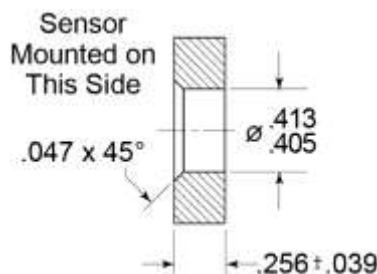

Figure 4
9. Location, orientation, and the method of securing the CIP-P and CIP-S sensors is determined by the airframe manufacturer. However, Lycoming does make these recommendations for dimensions of the mounting hole (Figure 4). The sensors must be connected to the airframe induction system installed between the air cleaner and the turbo compressor in a location that reads static pressure and should never be installed with the sensor air inlet facing up or in the bottom of a pipe or duct.